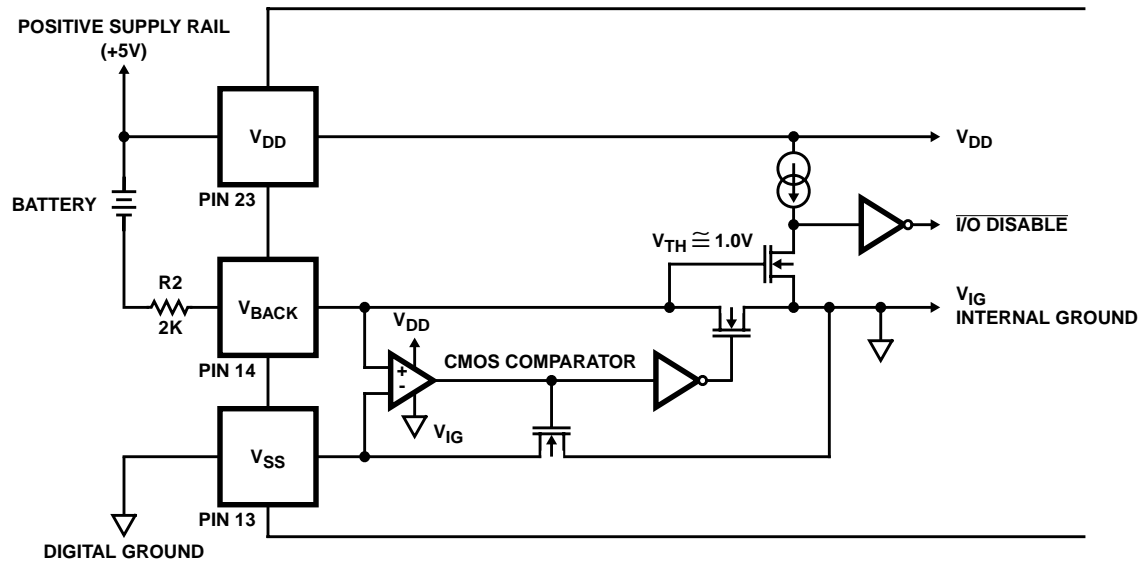

FIGURE 6. SIMPLIFIED ICM7170 BATTERY BACKUP CIRCUIT
The ICM7170 contains an on-chip power down detector that eliminates the need for external components to support the battery-backup switchover function, as shown in Figure 6. Whenever the voltage from the V_{SS} pin to the V_{BACKUP} pin is less than approximately 1.0V (the V_{TH} of the N-channel MOSFET), the data bus I/O buffers in the ICM7170 are automatically disabled and the chip cannot be read or written to. This prevents random data from the microprocessor being written to the clock registers as the power supply is going down.
The new load configuration (Figure 6) allows these two conditions to be met independently. The two load capacitors, C1 and C2, provide a fixed load to the oscillator and crystal. C3 adjusts the frequency that the circuit resonates at by reducing the effective value of the crystal's motional capacitance, C0. This minute adjustment does not appreciably change the load of the overall system, therefore, stability is no longer affected by tuning. Typical values for these capacitors are shown in Table 5. C1 and C2 must always be greater than twice the crystal's recommended load capacitance in order for C3 to be able to trim the frequency. Some experimentation may be necessary to determine the ideal values of C1 and C2 for a particular crystal.
4. **EXTERNAL BATTERY BACKUP** - The ICM7170 may be placed on the same power supply as battery-backed up RAM by keeping the ICM7170 in its operational state and having an external circuit switch between system and backup power for the ICM7170 and the RAM. In this case V_{BACKUP} should be pulled up to V_{DD} through a 2K resistor. Although the ICM7170 is always "on" in this configuration, its current consumption will typically be less than a microamp greater than that of standby operation at the same supply voltage (See Note 9). Proper consideration must be given to disabling the ICM7170s and the RAMs I/O before system power is removed. This is important because many microprocessors can generate spurious write signals when their supply falls below their specified operating voltage limits. NANDing CS (or WR) with a POWERGOOD signal will create a \overline{CS} (or \overline{WR}) that is only valid when system power is within specifications. The POWERGOOD signal should be generated by an accurate supply monitor such as the ICL7665 under/over voltage detector. An alternate method of disabling the ICM7170's I/O is to pull V_{BACKUP} down to under a volt above V_{SS} ($V_{SS} < V_{BACKUP} < 1.0V$). This will cause the ICM7170 to internally disable all I/O. Do not allow V_{BACKUP} to equal V_{SS} , since this could cause oscillation of the battery backup comparator (See Figure 6). $V_{BACKUP} = V_{SS} + 0.5V$ will disable the I/O and provide enough overdrive for the comparator.